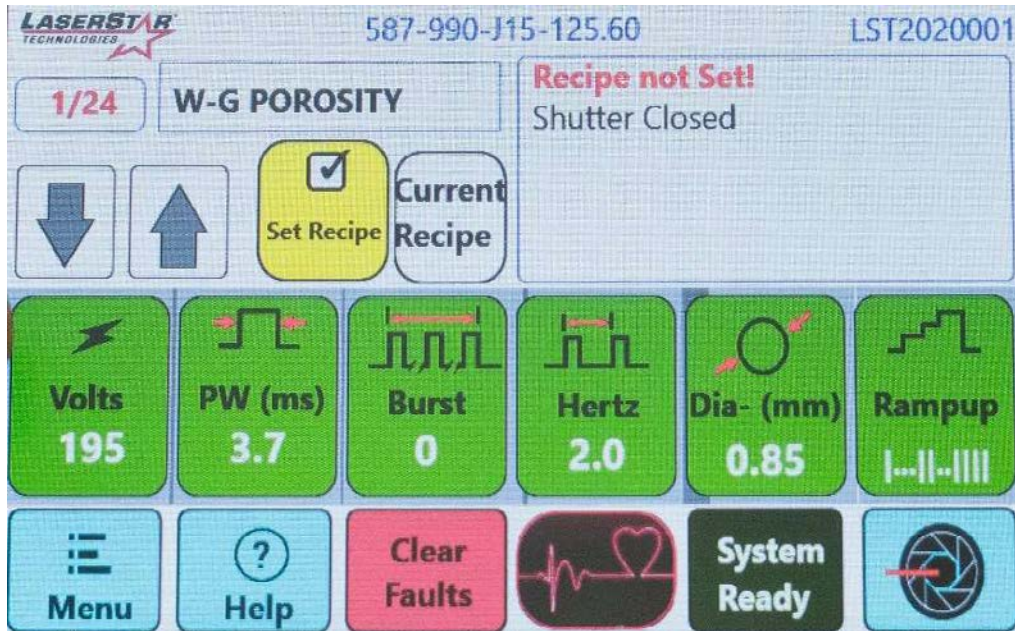

Figure 82
1. Press "MENU" on Main Screen (Figure 82)